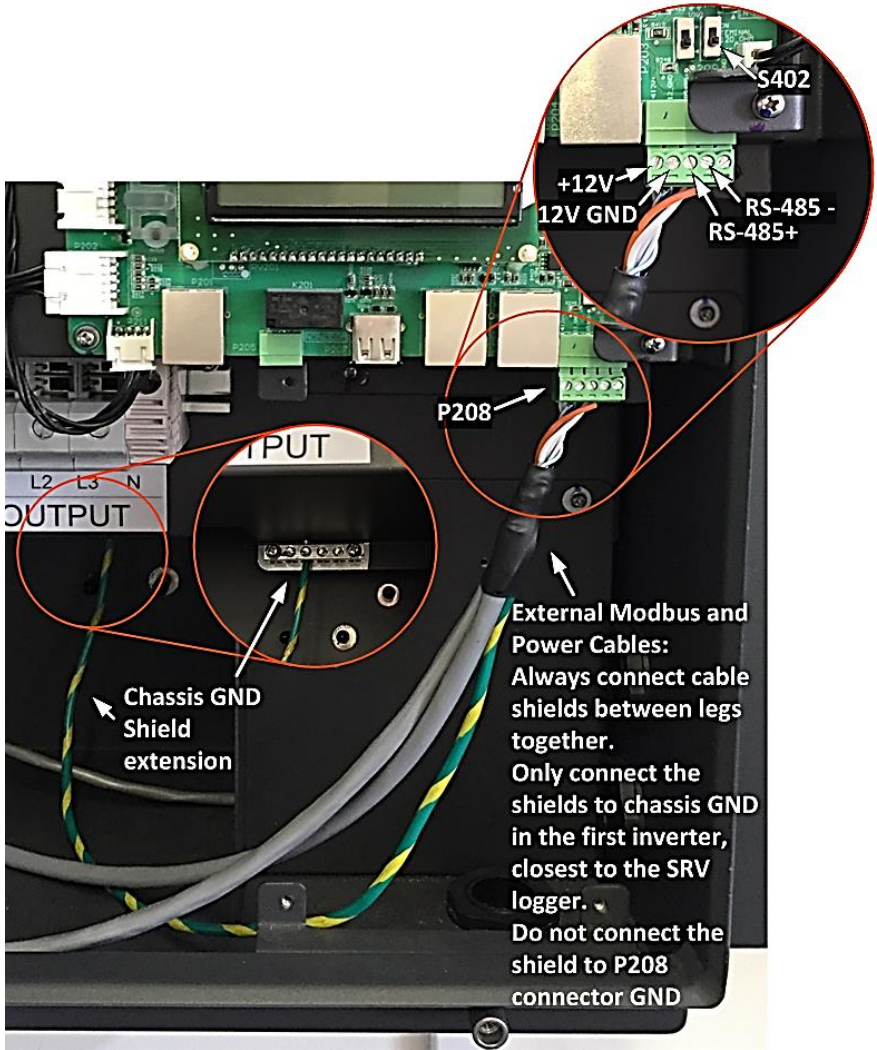

Figure 2.43 - The SolrenView Data Logger is connected to the PVI 36TL inside the Wiring Box.
3. Bring the Yaskawa Solectria Solar supplied SolrenView data logger power and Modbus cable into the inverter wiring box through knockout holes at the bottom. See section 2.3 Electrical Installation for more information. Connect the cable to P208 on the LCD board as shown in Figure 2.43.
4. Extend the Modbus cable shield with additional wire so that it can reach to the Chassis GND terminal block as shown in Figure 2.43.